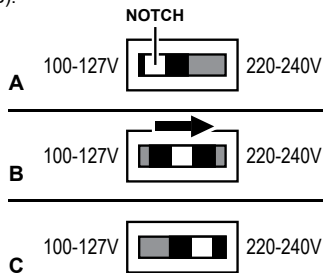

FIGURE 1
1. Locate Voltage Selector, recessed inside slot at rear of Main Body. Note the white open notch in middle of Voltage Selector (FIGURE 1-A).
3. Carefully insert tip of pen into white notch. Slide Voltage Selector to the right, towards 220-240V label (FIGURE 1-B).
**IMPORTANT: Be sure that Voltage Selector is moved as far to the right as possible for voltage setting to take effect correctly. Voltage Selector should appear as shown (FIGURE 1-C).**